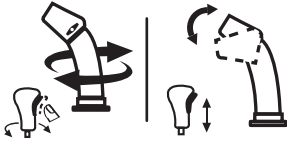

Figure 70
- To change the direction in which snow is thrown, squeeze the button on the control and rotate to the right or to the left (Figure 70).